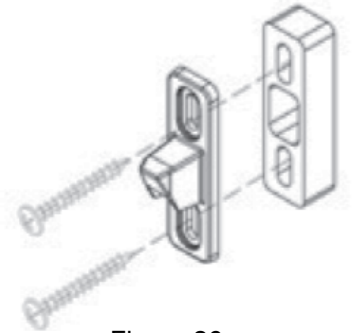

Figure 26
36. The box screen keeper (Item 31) must be installed with the screen spacer (Item 32; Figure 26). Attach the keeper using two screws (Item 43).